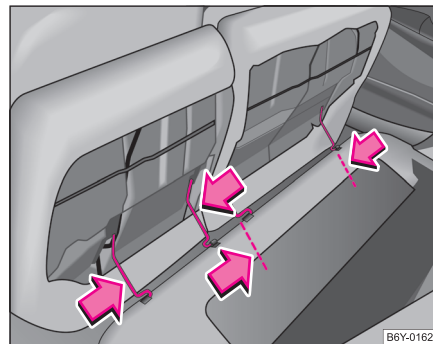

Fig. 56 Remove the rear seats
- Press the wire clamps in the direction of the arrow ⇒ fig. 56 and remove the rear seat from its holder.